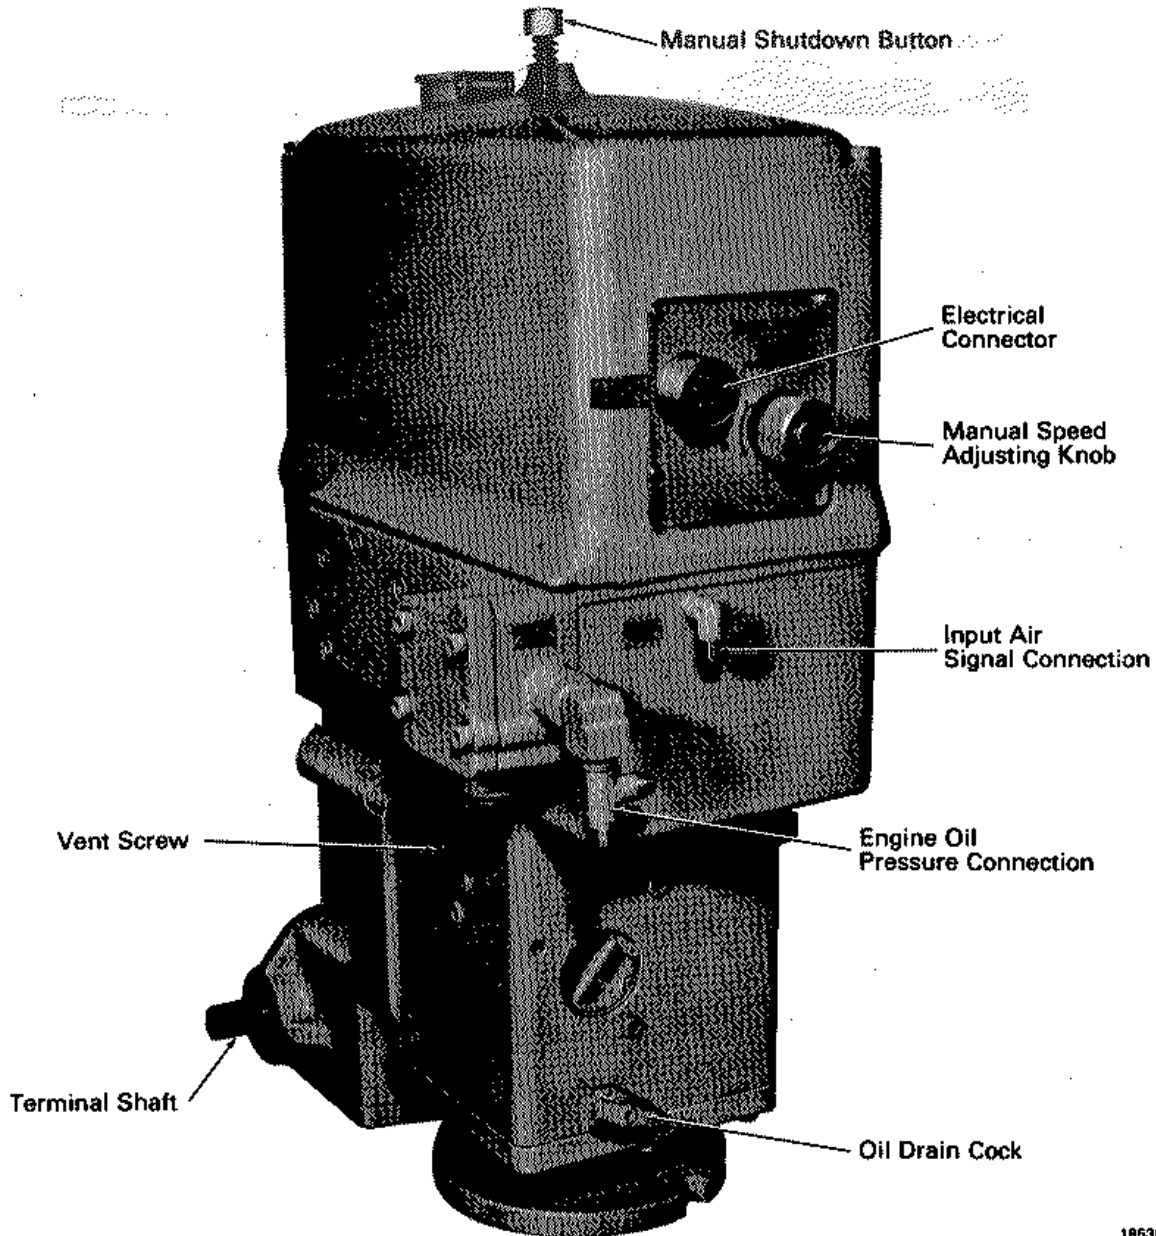

Fig. 12-4 - Model PGA Governor, 3/4 Rear view
2. Open the compensating needle valve, Fig. 12-3, several turns. Loosen the vent plug, Fig. 12-4, several turns, but do not remove the plug.